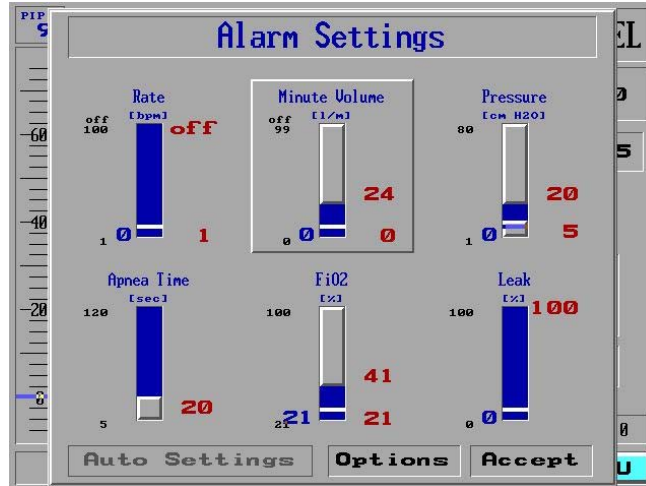

Figure 135: The Minute Volume Alarm Slider Selected
3. In the **Alarm Settings** screen, dial the Control Knob until **Minute Volume** is selected in relief (Figure 135).